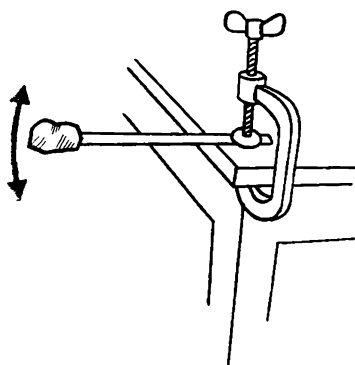

Fig. 328
- (c) A flat metal strip (for example, a hacksaw blade) may be clamped to a bench (Fig. 328). Try this experiment with the blade vibrating vertically and horizontally with and without plasticine loading. Compare this system with the wig-wag machine.